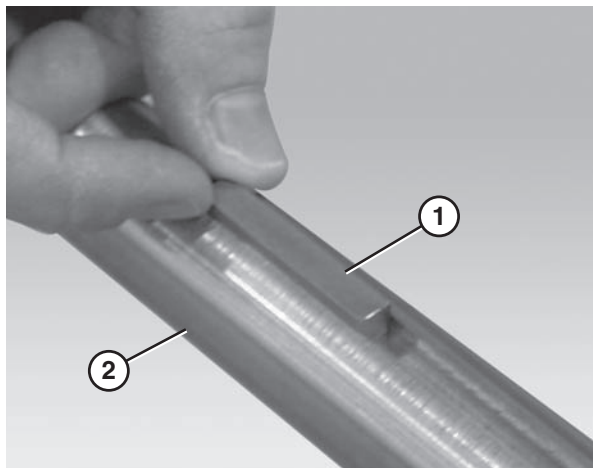

Figure 42
2. Insert the drive spindle key (Figure 42, item 1) into the drive spindle keyway (Figure 42, item 2).